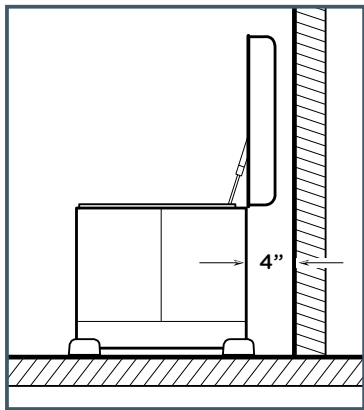

Fig. 1
3. Do not place Landport where its lid will be obstructed (such as under a branch), or where you can't open the lid completely (such as too close to a wall). We recommend a distance of 4" measured from the back of the Landport to the wall behind it. (Fig. 1)